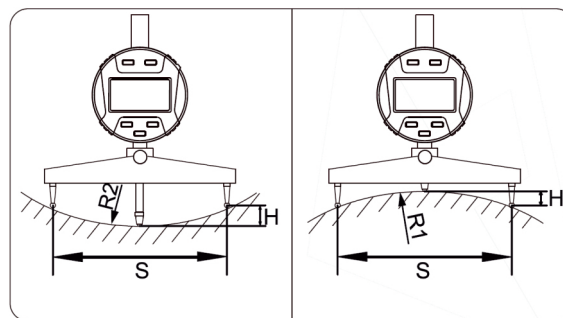

fig. 1
**Measurement Capabilities:** The gauge can measure both the radius (R1 for external, R2 for internal) and the chord height (H) of arcs (See Fig. 1). The display shows results as per Fig. 2.